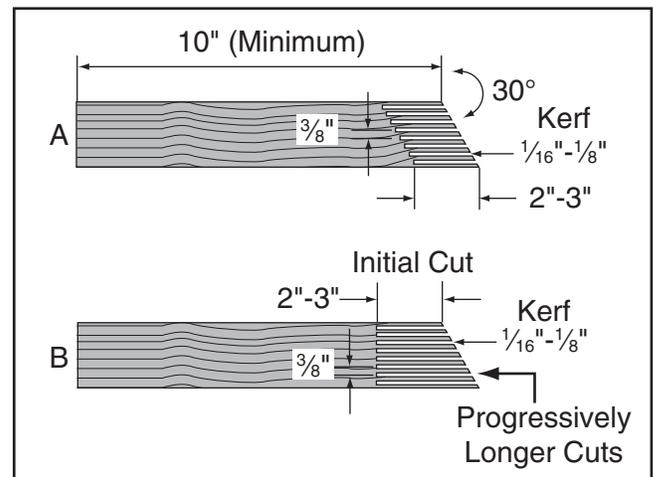

Figure 125. Patterns for featherboards (top view shown).
3. Make a series of end cuts with grain $\frac{3}{8}$ "– $\frac{1}{4}$ " apart and 2"–3" long, as shown in **Figure 125** (A). Alternatively, start cuts at 2"-3" deep, then make them progressively deeper, as shown in **Figure 125** (B).